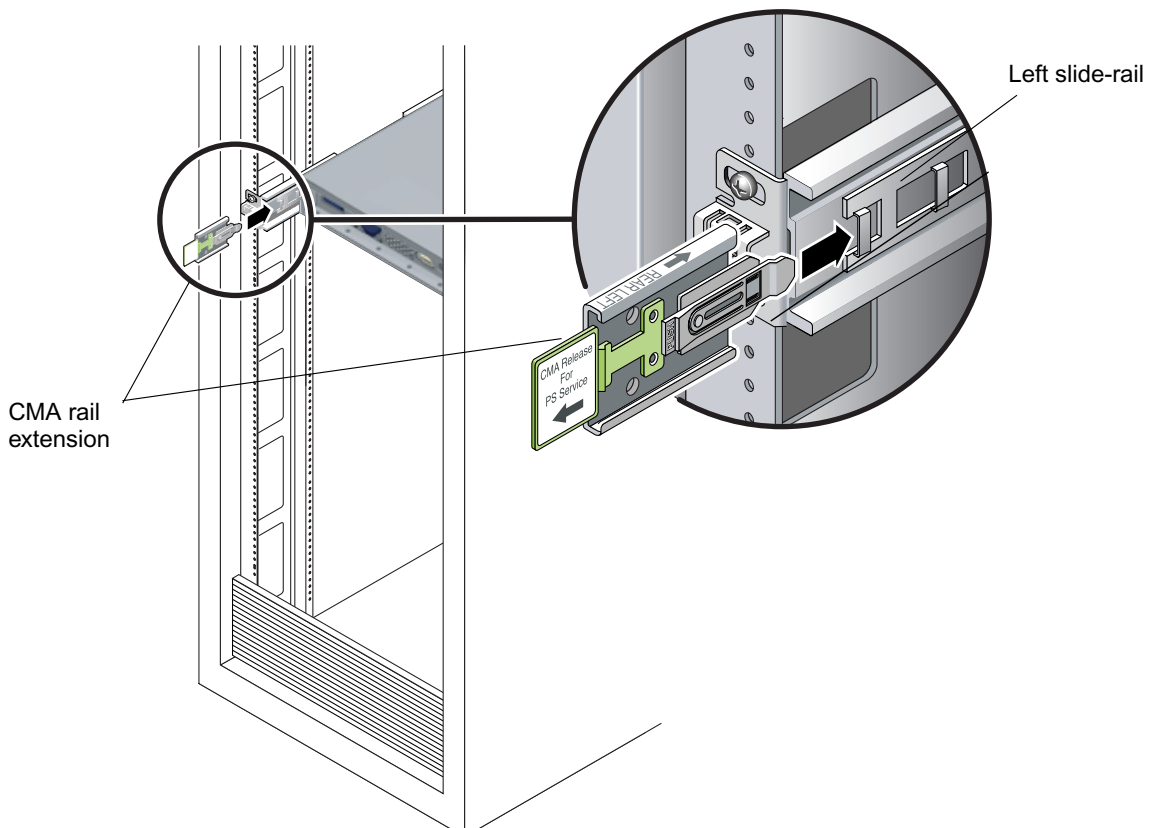

FIGURE 1-8 Inserting the CMA Rail Extension Into the Back of the Left Slide-Rail
3. Locate the CMA rail extension and insert it into the left slide-rail until the extension locks into place with an audible click. (See FIGURE 1-8.)